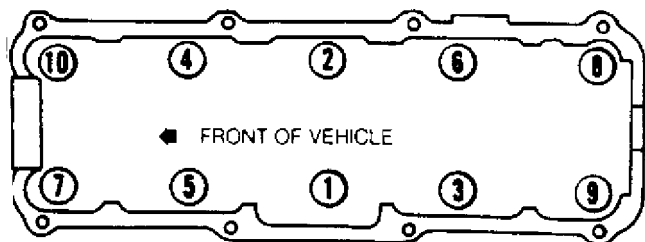

Fig. 1: Cylinder Head Bolt Tightening Sequence
5) Loosen timing belt tensioner. Remove timing belt from camshaft sprocket. Loosen head bolts in reverse order of tightening sequence. See Fig. 1. Remove cylinder head with manifolds attached.
4) Install cylinder head with manifolds. Install head bolts Nos. 8 and 10 to align cylinder head. Install remaining head bolts. Polygon stretch head bolts must be sequentially tightened in 3 stages with engine cold. Tighten head bolts in proper sequence. See Fig. 1.